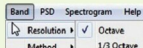

Fig. 5: Select Band→Resolution
Settings. 1. Select Band→Resolution from the main menu (1) [Fig. 5], to select the resolution from octave or 1/3 octave.
2. Select Band→Method from the main menu (1) [Fig. 5], to select the method FFT or ANSI.